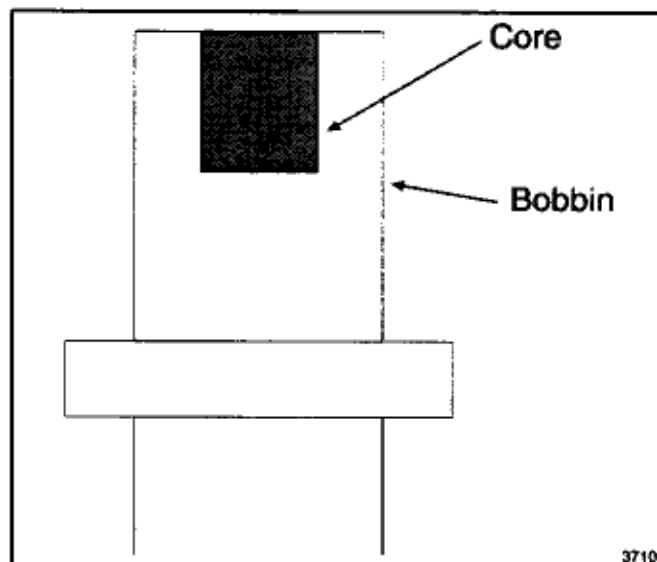

Figure 4-7. Adjustment Coil
3. Turn the cores of LR01, LR02, LR04, LR05 and LR06 five turns down from the top of the transformer shield, see Figure 4-7.